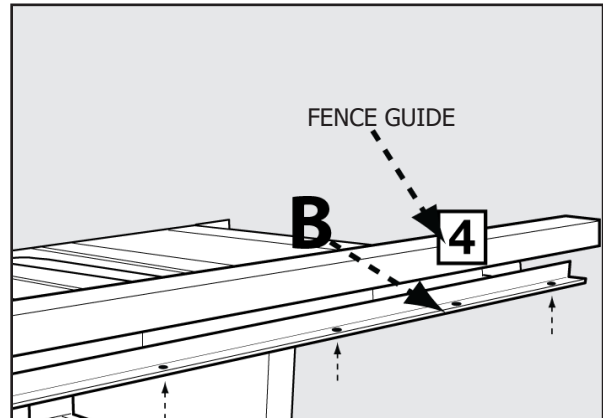

FIGURE 13
2. The riving knife comes installed in the low, non-through cutting position. To attach the anti-kickback pawls and blade guard assemblies, the riving knife must be in the raised position as shown in Figure 13. To raise and lower the riving knife, see Riving Knife Height Settings on page 20.